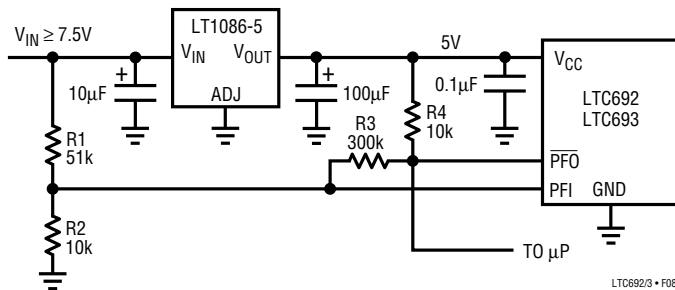

Figure 8. Monitoring Unregulated DC Supply with the LTC692/LTC693 Power Fail Comparator
The LTC692/LTC693 generate a Power Failure Output (PFO) for early warning of failure in the microprocessor's power supply. This is accomplished by comparing the Power Failure Input (PFI) with an internal 1.3V reference. PFO goes low when the voltage at the PFI pin is less than 1.3V. Typically PFI is driven by an external voltage divider (R1 and R2 in Figures 8 and 9) which senses either an unregulated DC input or a regulated 5V output. The voltage divider ratio can be chosen such that the voltage at the PFI pin falls below 1.3V, several milliseconds before the 5V supply falls below the maximum reset voltage threshold of 4.50V. PFO is normally used to interrupt the microprocessor to execute shutdown procedure between PFO and RESET or RESET.
The power fail comparator, C3, does not have hysteresis. Hysteresis can be added however, by connecting a resistor between the PFO output and the noninverting PFI input pin as shown in Figures 8 and 9. The upper and lower trip points in the comparator are established as follows:
**Example 1:** The circuit in Figure 8 demonstrates the use of the power fail comparator to monitor the unregulated power supply input. Assuming the the rate of decay of the supply input  $V_{IN}$  is 100mV/ms and the total time to execute a shutdown procedure is 8ms. Also, the noise of  $V_{IN}$  is 200mV. With these assumptions in mind, we can reasonably set  $V_L = 7.25V$  which is 1.25V greater than the sum of maximum reset voltage threshold and the dropout voltage of LT1086-5 (4.5V + 1.5V) and  $V_{\text{HYSTERESIS}} = 850mV$ .